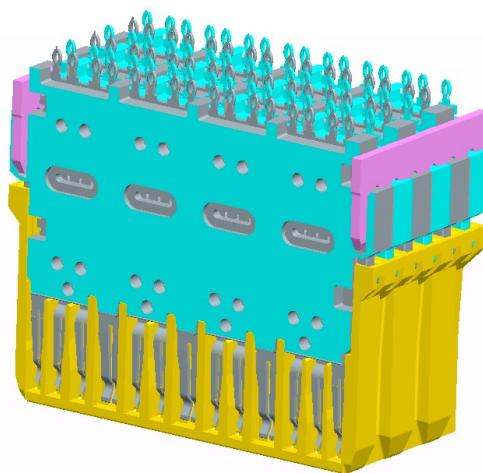

Figure 13: XCede 4 Pair 4 Column 22mm Mezzanine Connector
- 4.2.1 XCede 4 pair Mezzanine (Stacker) connector system has 15mm, 22mm, 30mm, 40mm, 42mm, and 44mm stack heights available, Figure 13 shows the 4 pair 4 column 40mm stack height connector.